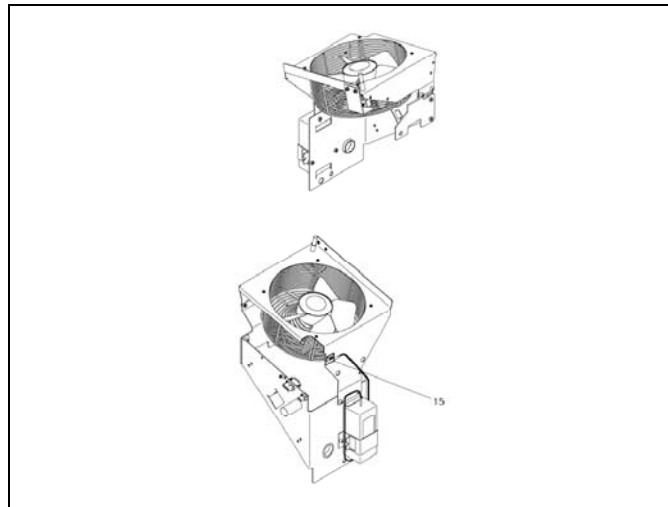

Figure 15. Completed Left Hand Gantry Fan Assembly
12. Install new assembly (Figure 15) on the gantry.
15. Attach thermostat sensor to tywrap mount (item 15, Figure 15).